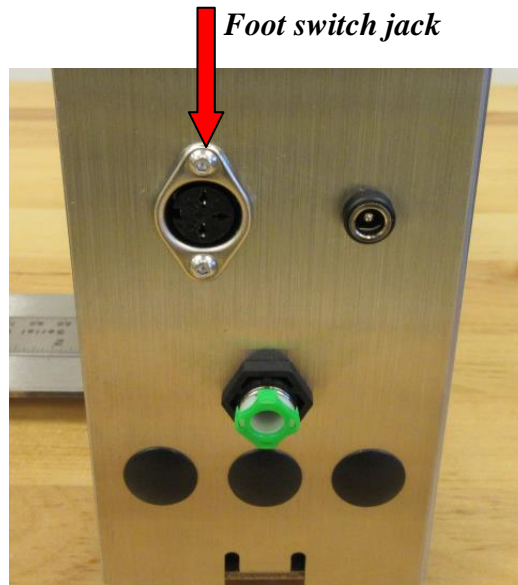

Figure 2.3.1
- Insert the DIN Plug from the foot pedal into the receiving jack located on the rear of the cover. *Figure 2.3.1*